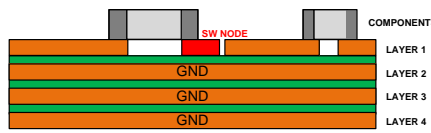

Figure 10. Cross Section Illustration of the Four Layer Board with Unbroken Ground Planes
2. A four-layer board with two unbroken ground planes as midlayers, as illustrated in Figure 10